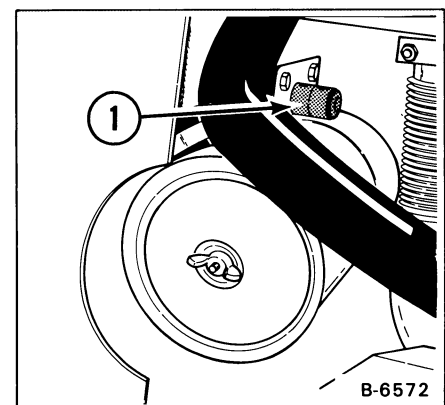
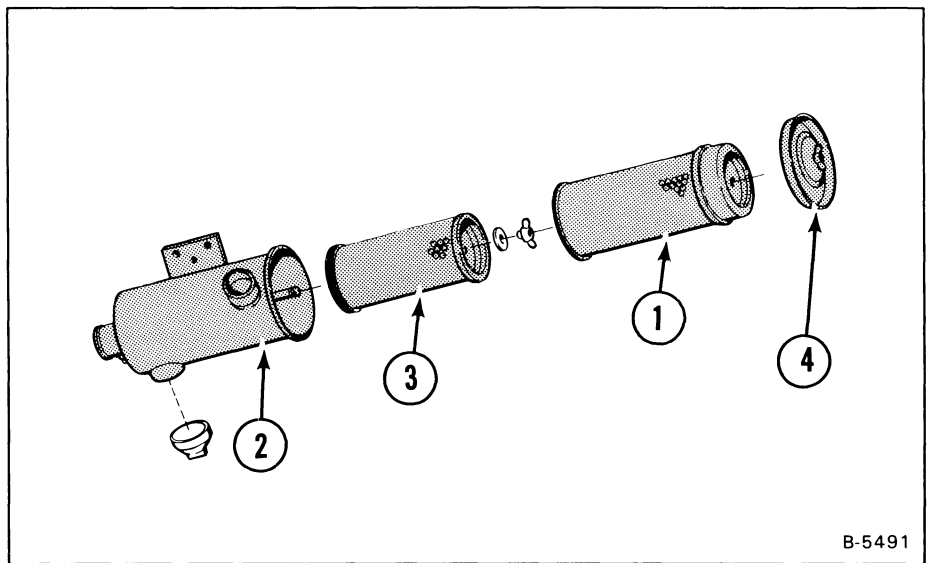

Fig. 1-10 Condition Indicator
Fig. 1-11 Air Cleaner Assembly
**NOTE:** Before changing the air cleaner, push the button on the condition indicator (Fig. 1-10, Item 1), start the engine and if the red ring still shows, do the following service procedure.
The large air cleaner element (outer) must be replaced when the red ring shows in the window of the condition indicator (Fig. 1-10, Item 1). DO NOT remove the inner filter. Service the air cleaner as follows:
(1) Remove the wing nut (Fig. 1-10, Item 2) and remove the air cleaner cover. Remove the filter element (Fig. 1-11, Item 1).
(2) Clean the inside of the filter housing (Fig. 1-11, Item 2) so that the element has a smooth surface to contact at the seal. Make sure the air cleaner housing is free of corrosion, especially if the Bobcat Forklift is used under corrosive conditions.
(4) Install the air cleaner cover (Fig. 1-11, Item 4).
(5) Push the button at the condition indicator, to remove the red ring in the window.
(6) Check that the hoses and the clamps are tight.